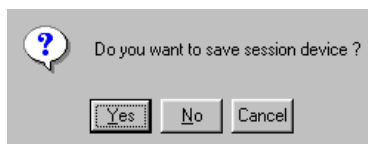

Figure 2-8 HyperTerminal Dialog Box
14. Click *Yes*. A second HyperTerminal message box appears (Figure 2-8).